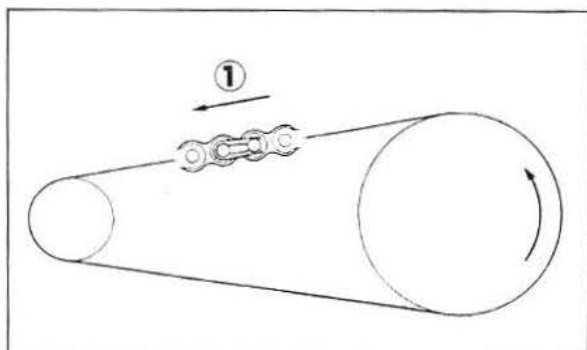

Fig. 2-4 ① Normal direction of chain
- a. When installing the drive chain, make sure that the opening of the clip is facing in the opposite direction as chain movement. (Fig. 2-4)